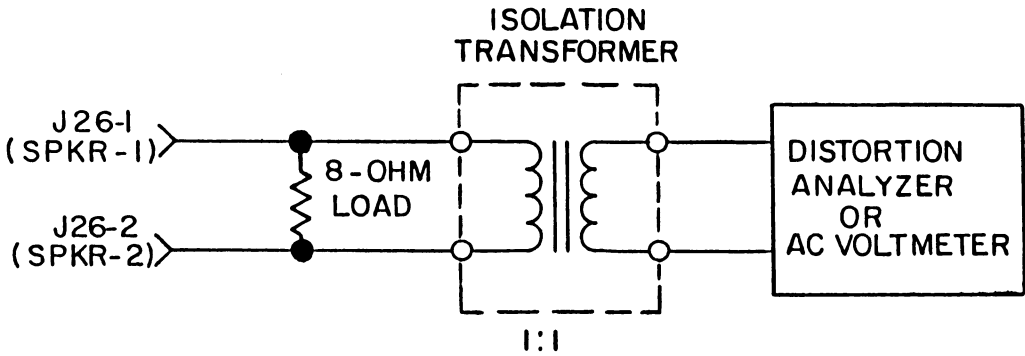

Figure 4 - Isolation Transformer
4. Audio Isolation Transformer (1:1); GE Part No. 19A116736P1 or equivalent (See Figure 4).
3. Connect an AC VTVM as shown in Figure 4 using the isolation transformer and 8-ohm, 10-watt resistor.